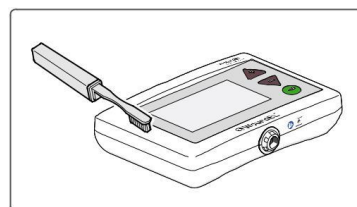

Figure 34. Detach visible dirt with a suitable tool
2. Carefully detach visible dirt from the WoundEL® device and/or the connection sockets mechanically using a suitable tool (e.g. a soft brush), see *Figure 34*.